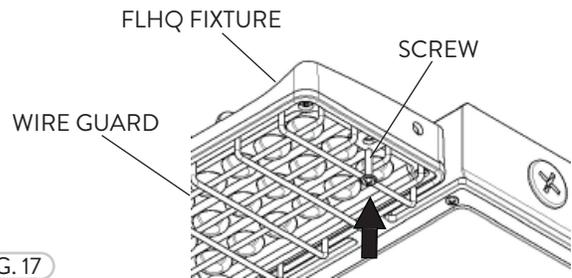

FIG. 17
- 2 Use the Screws to fasten the Wire Guard into the holes located at each end of the fixture lens (Fig. 17).